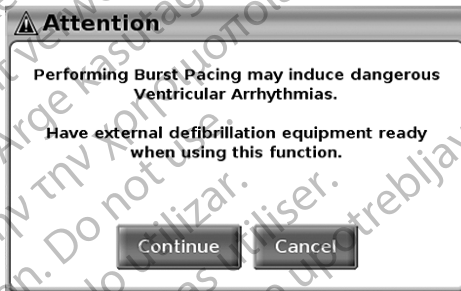

Figure 18. PSA Burst Pacing Warning message
4. A warning displays indicating burst pacing will be activated (Figure 18 on page 28).